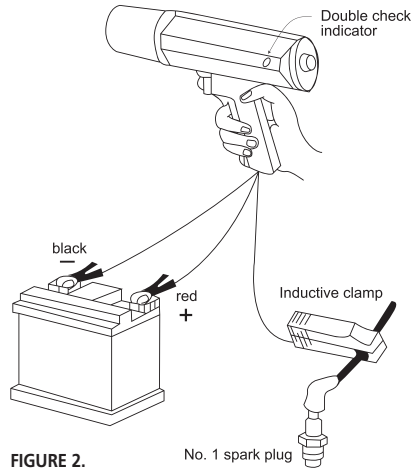

FIGURE 2.
5. Connect the timing light as shown in figure 2.